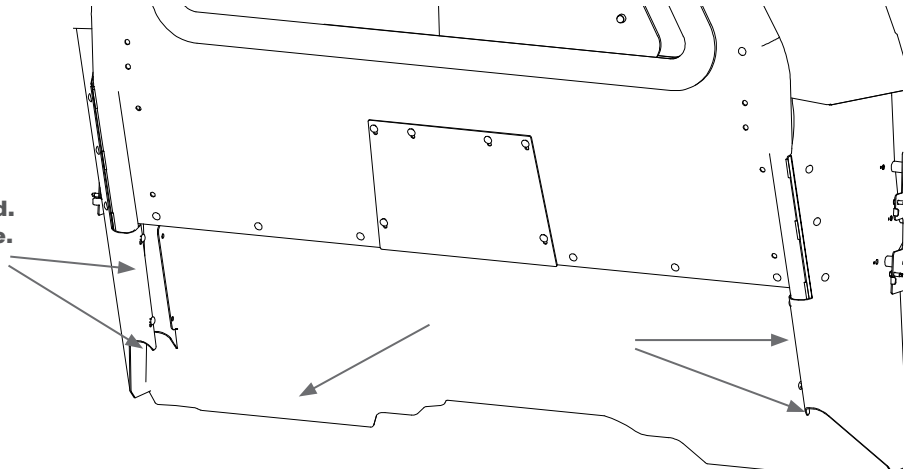

fig. 5
- A. If you are installing the full width seat protector (3SP57FWT15) option then open and place the seat protector through the front door with the front seats moved out of the way. The seat protector needs to be installed towards the front side of the partition. Carefully get it into place and line up the bolt holes on the side tab first. Place (3X36) bolts and (3X16Z) whiz nuts through the side tabs of the seat protector and hand tighten. Once the side bolts are started then install all other bolts. Tighten the side bolts first with an opened ended 7/16 wrench then tighten all other bolts with a 7/16 socket. (See fig. 5)